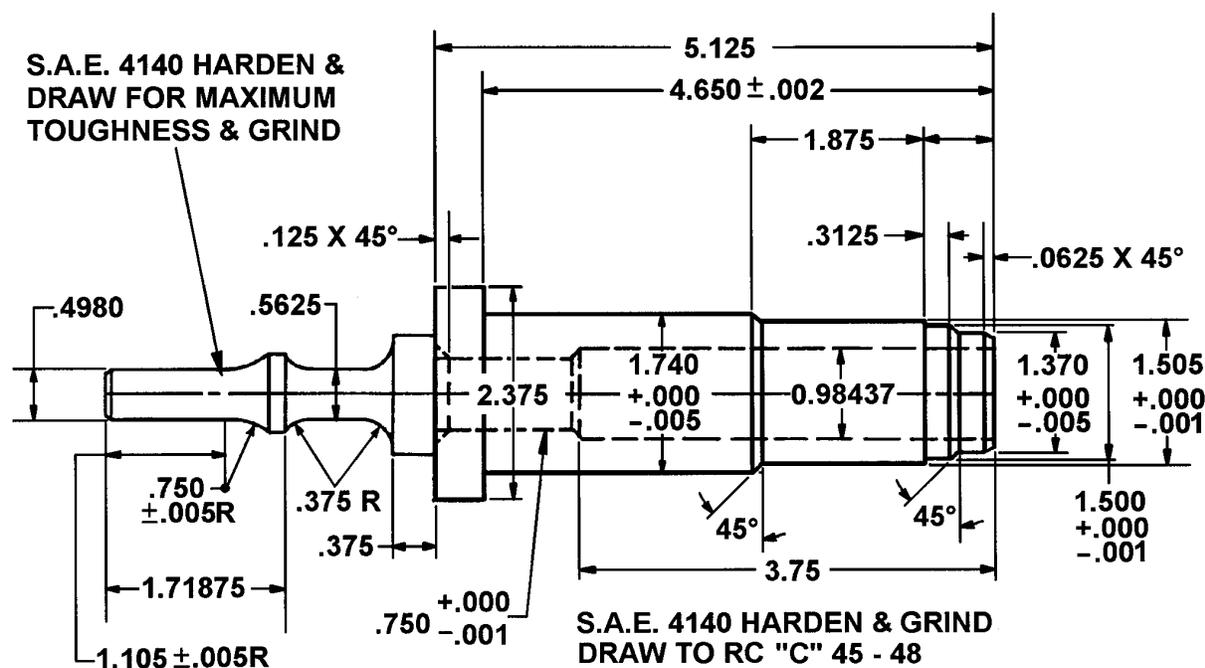

FIGURE 18-5. OIL CONTROL PLUG INSTALLATION TOOL
- b. An installation tool conforming to the specifications shown in Figure 18-5, "Oil Control Plug Installation Tool."
The use of makeshift tools not conforming with the specifications shown in Figure 18-5, "Oil Control Plug Installation Tool," may cause damage to oil control plug or crankshaft during installation. The 2.375 inch diameter